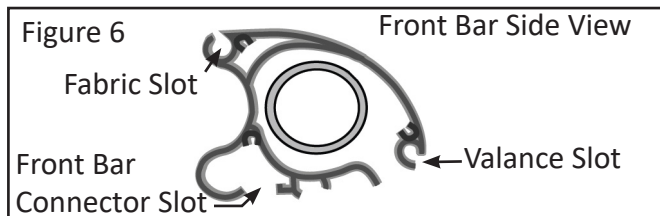

Figure 6
1. Use a  $\frac{5}{64}$ " Allen wrench to remove the Fabric Clamp from the Fabric Slot on the **LEFT** side of the Front Bar. See **Figure 6**.